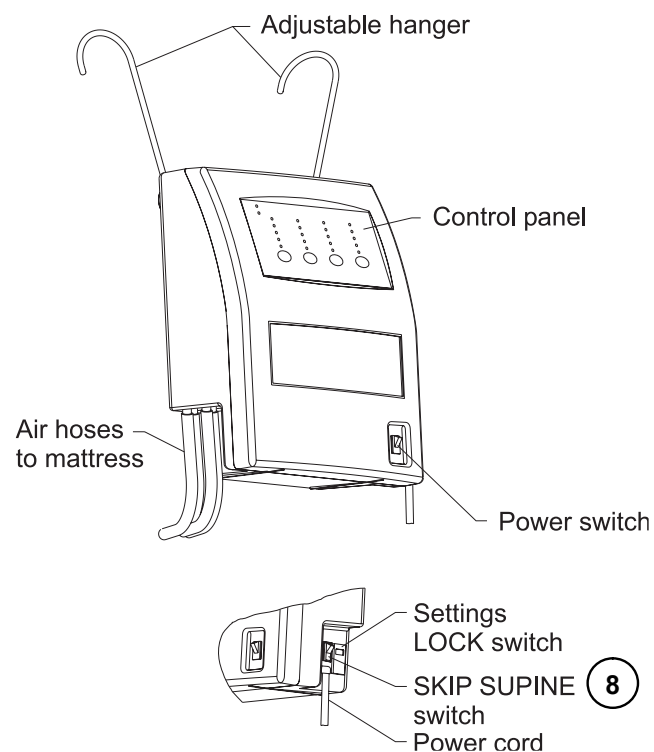

Figure 2—Control Unit (CLP2000 shown)
- 2 **Lock**—(on side of unit—see figure 2) Momentarily pressing the LOCK switch locks all settings -- the setting buttons are rendered inactive. The LOCK indicator on the front panel will light when the settings are locked. Pressing the LOCK switch when the LOCK indicator light is lit will unlock the settings. The settings will also become unlocked if the unit is turned off or if a power failure occurs.
8. **Skip Supine** —(on side of control unit—see fig. 2) If supine position is not desired for full rotation, set the SKIP SUPINE switch (see figure 2). The supine position will be skipped during the rotation cycle when the SKIP SUPINE switch is positioned to the upper position.